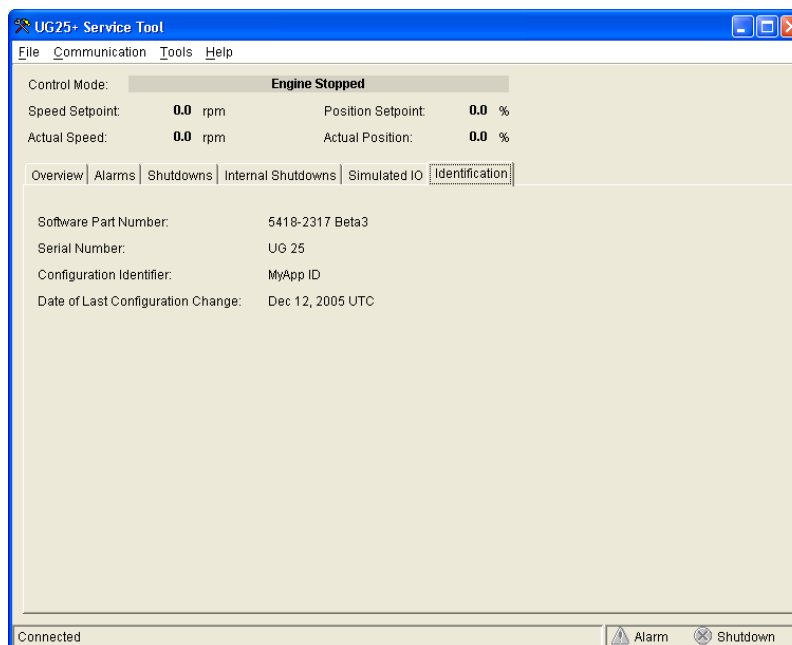

Figure 5-8. Service Tool – Identification Tab
- Identification (see Figure 5-8)